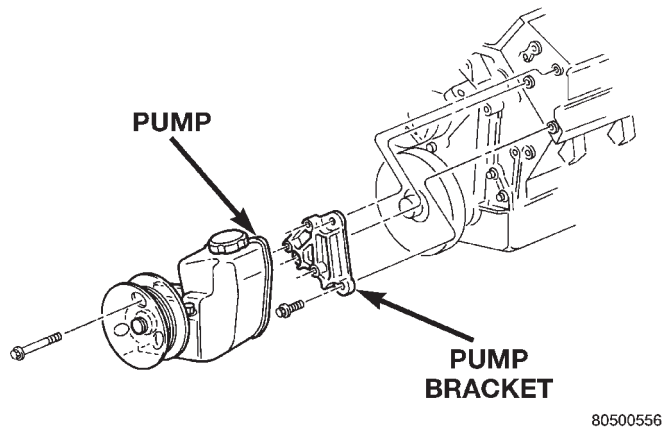

Fig. 4 Pump Mounting – 5.2L/59L
- (1) Remove the serpentine drive belt. Refer to Group 7 Cooling.
- (2) Remove the pressure and return hoses from pump and drain pump.
- (3) Vehicles equipped with Speed Proportional Steering, disconnect actuator harness.
- (4) Remove pump mounting bolts and remove the pump (Fig. 4).
- (5) Remove pulley from pump.